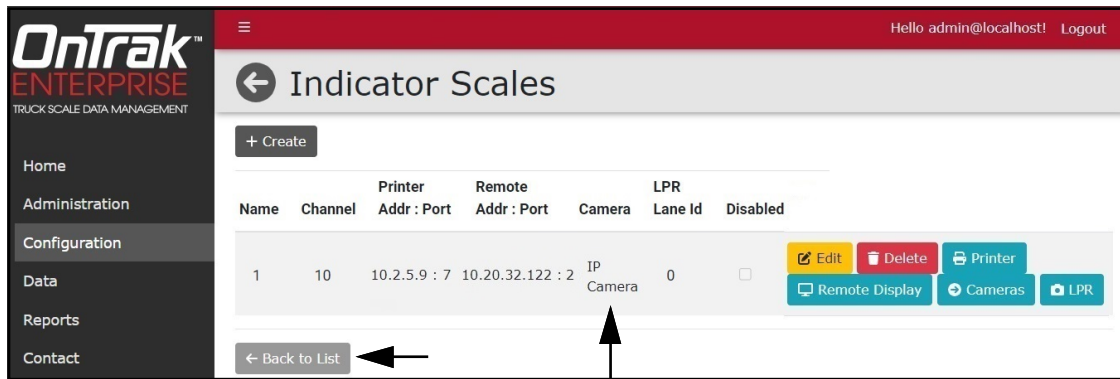

Figure 6-20. Indicator Scales with Camera Information
7. The Indicator Scales page displays with the camera added (see Figure 6-20 on page 84).